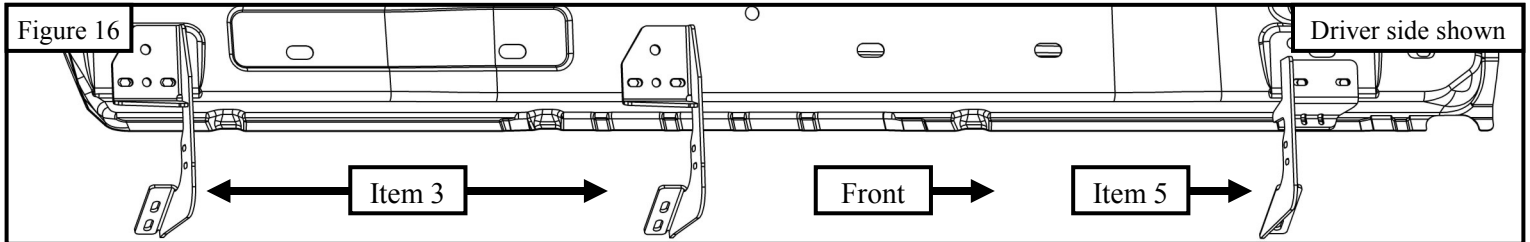

Figure 16
8. Loosely secure mounting bracket A (Item 3) to the rocker panel in the center and rear mounting locations by aligning (Item 12) (as shown on **Figure 5**), using (2) M8 hex bolts (Item 16), (2) M8 lock washers (Item 17), (2) M8 flat washers (Item 18), (1) M10 flat washers (Item 11), (1) M10 lock washers (Item 10) and (1) M10 hex nuts (Item 9). See **Figures 7 & 11**. Refer to **Figure 16** for bracket positioning.